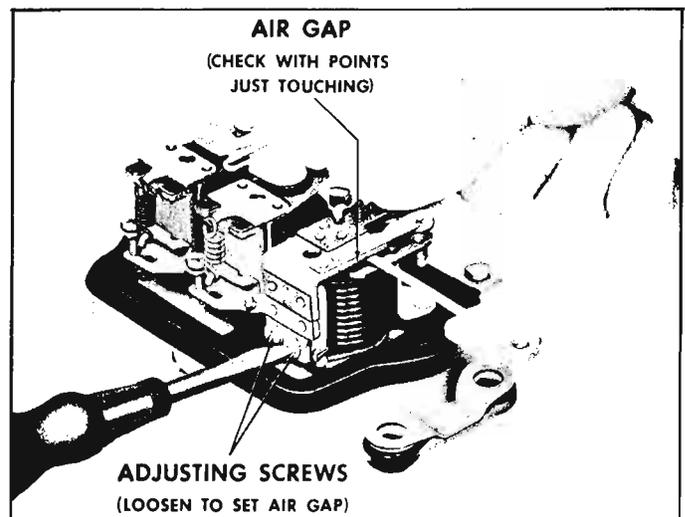

Fig. 8-32—Adjusting Cutout Relay Air Gap
1. Place fingers on armature directly above core and move armature down until points just close and then measure air gap between armature and center core (fig. 8-32). Air gap should be .020".
2. To adjust air gap, loosen two screws at back of relay and raise or lower armature as required. Tighten screws securely after adjustment (fig. 8-32).